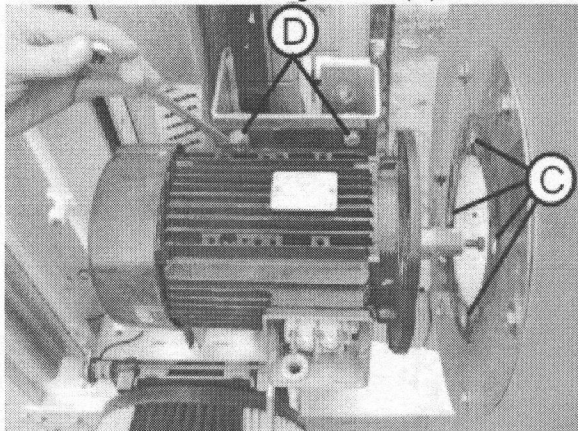

Fig. 072
5. Loosen connecting screws (C) of motor and dryer (Fig. 072).
6. Loosen retaining screws (D) of motor and remove motor downwards (Fig. 072).